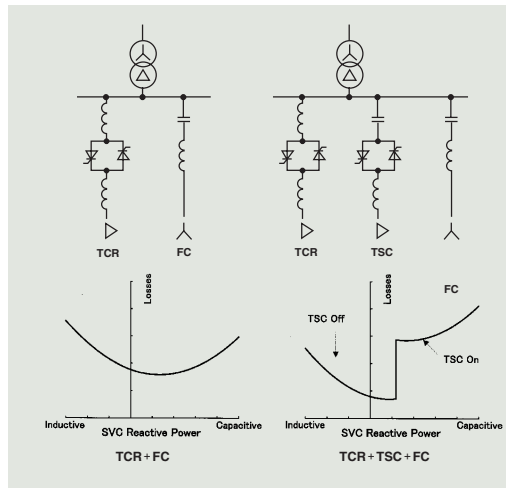

Figure 1 Typical Configuration of SVC
The SVC typically consists of a TCR (Thyristor Controlled Reactor), a TSC (Thyristor Switched Capacitor) and Fixed capacitors (FC) in a harmonic filter arrangement as shown in Figure 1. The TCR consists of reactors and thyristor valves. The TCR continuously controls reactive power by varying the current amplitude flowing through the reactors. The TSC consists of capacitors, reactors and thyristor valves. The TSC switches on and off the capacitors. The AC filters provide fixed reactive power and absorb the harmonic current generated by the TCR. The TCR+FC is the most basic configuration of the SVC. The TCR+TSC+FC, the more advanced configuration, can be tuned to minimize the losses at the most frequent operation point.